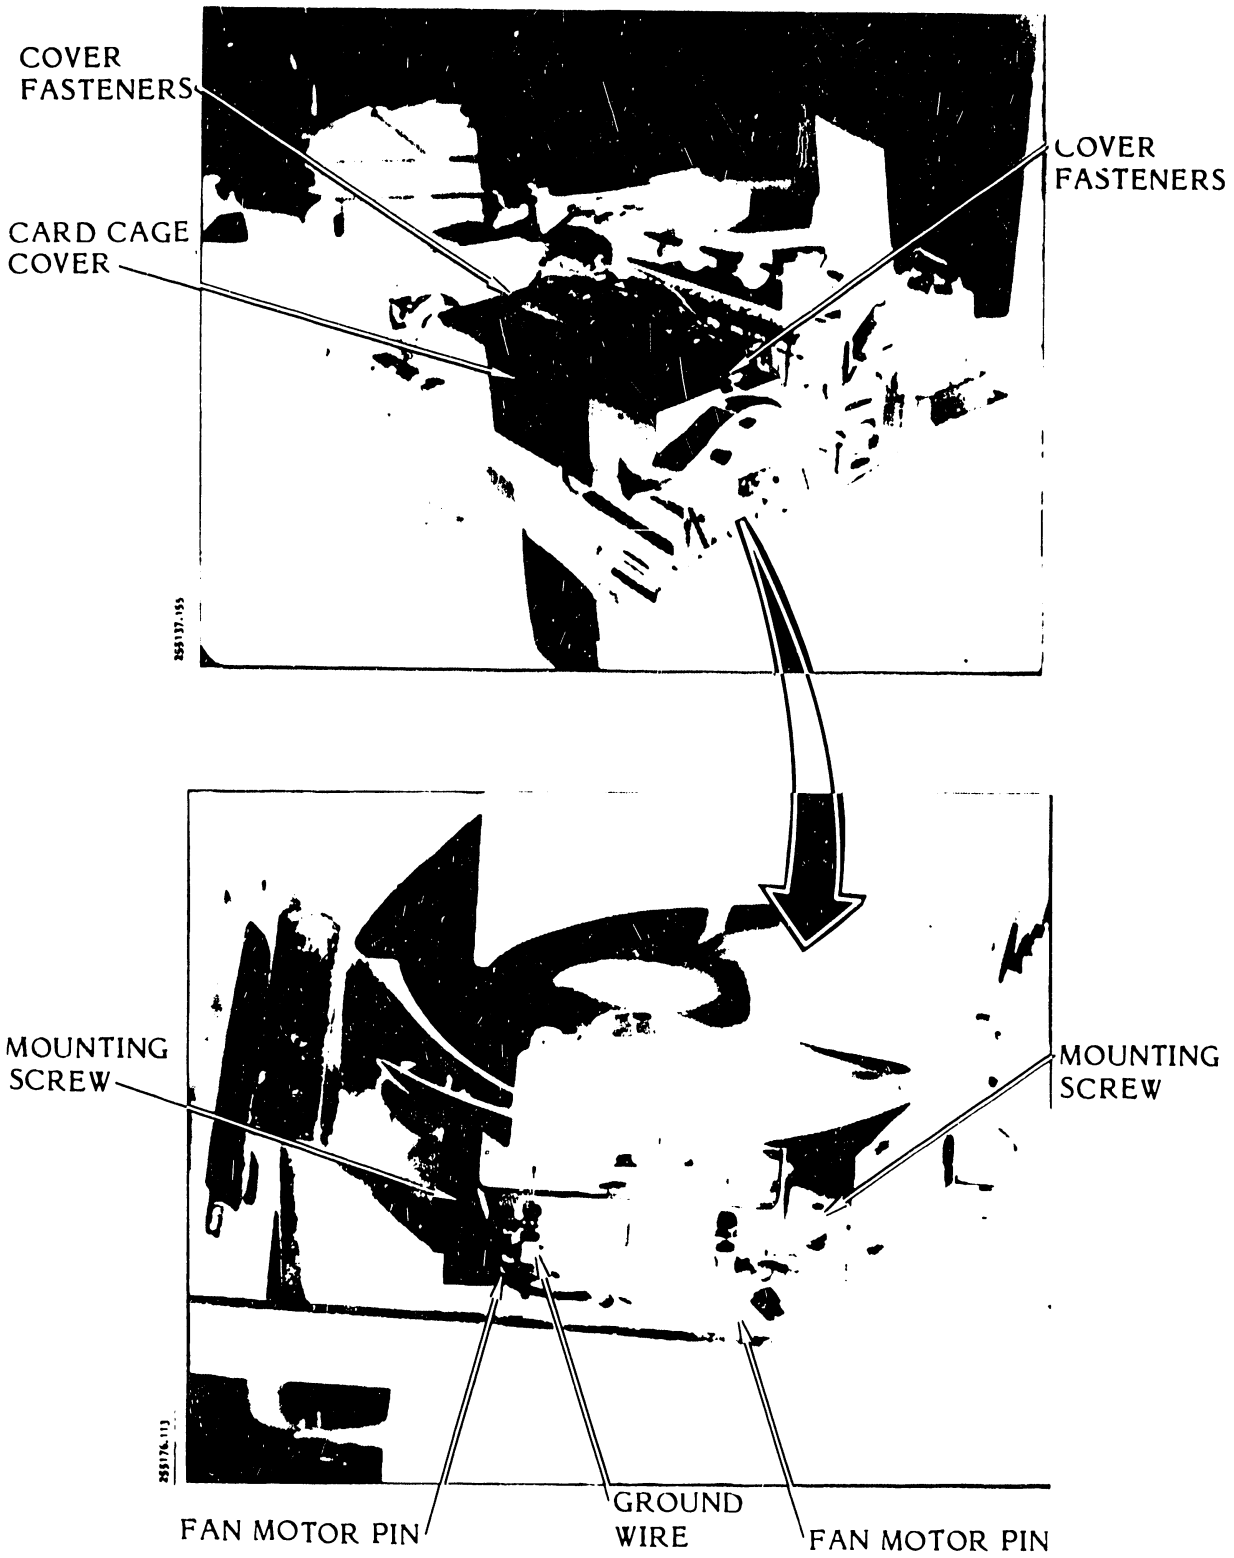

Figure 3-94. Fan Assembly Removal/Installation
3.7.25 Fan Assembly Removal/Installation (Figure 3-94)
- a. Place the fan assembly on the printer base as shown in figure 3-94.
- c. Use the 8 mm nut driver to connect the green ground wire to the fan motor ground terminal (see figure 3-94).